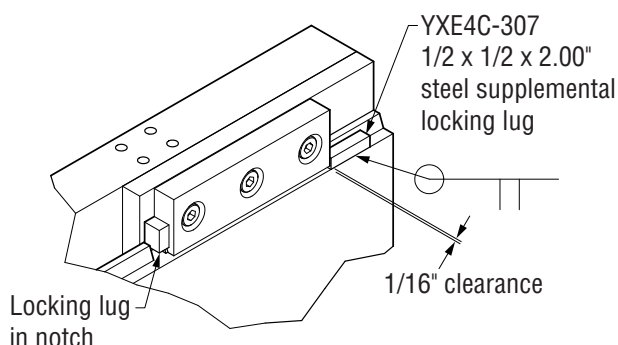

Figure 3-2, Locking Lug
9. Weld on the supplemental locking lug that is supplied with the attachment, (two pieces of 1/2 x 1/2 x 2.00 steel included with the attachment) with either E-6011 or E-6013 Welding Rod, or equivalent, on each side of the truck carriage. (Figure 3-2)